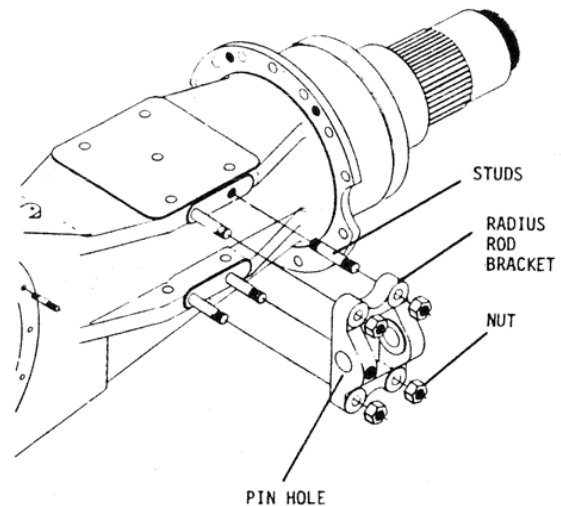

FIGURE 23
L. Radius Rod Bracket Installation - Figure 23.